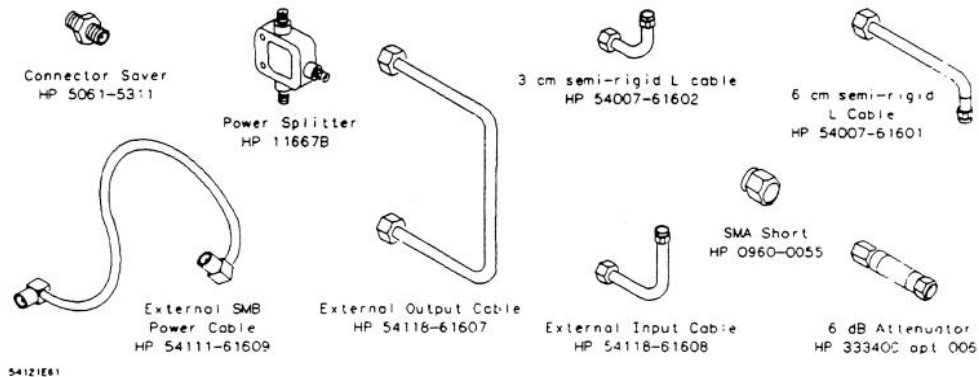

Figure 2-1. Accessories Supplied
2. Connect external SMB power cable from the HP 54118A's rear panel connector POWER SUPPLY +15 VDC to the four channel test set's rear panel connector J2 TRIGGER POWER +15 V. Refer to figure 2-1.